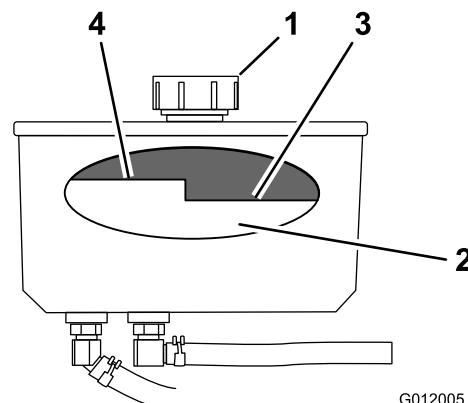

Figure 73
4. Clean the area around the cap and the filler neck of the hydraulic tank (Figure 73).
5. Remove the cap from the filler neck (Figure 73).
Note: The fluid level should be below the hot level of the baffle when the fluid is warm (Figure 73).